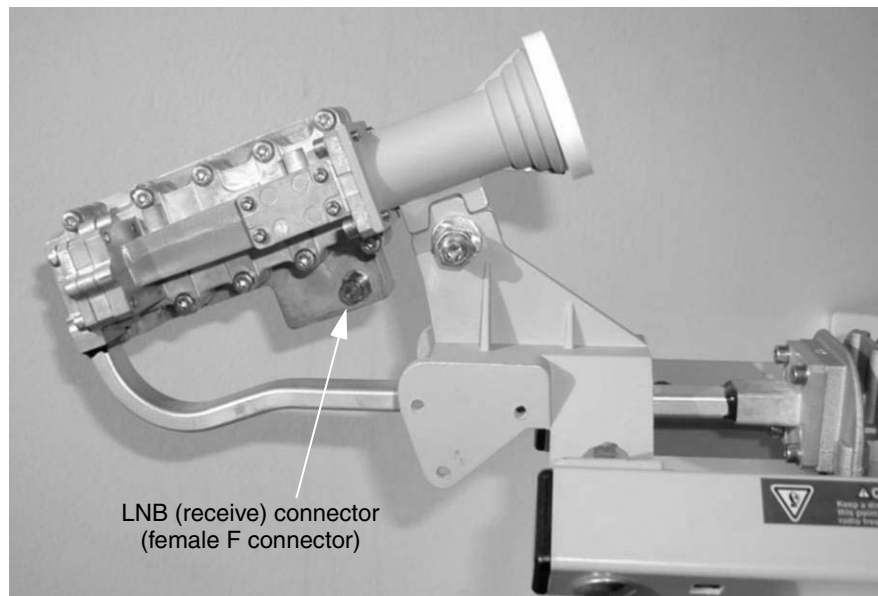

Figure 25: Connecting the receive cable to the LNB
1. Connect the receive cable (marked with red tape) to the LNB connector, which is shown in Figure 25.